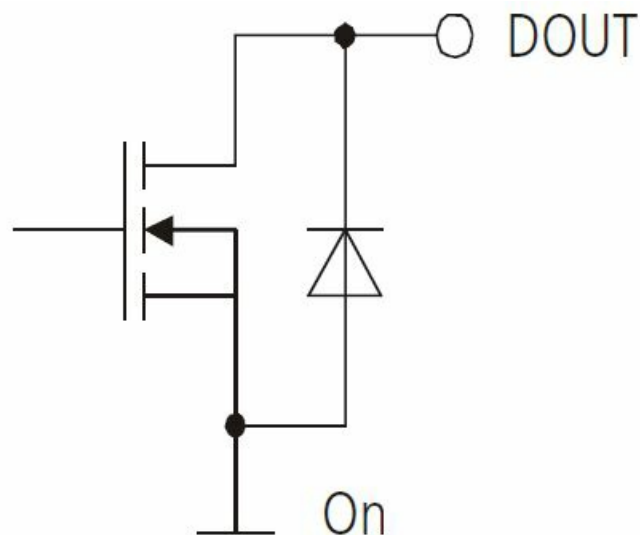

Fig. 7 Open drain output
The DLS-A(H) contains two digital outputs for level monitoring (DO 1 and DO 2) and one digital output for error signalization (DO E). These outputs are open drain outputs as shown in figure 7 and can drive up to 200mA. In the ON state, the FET transistor is electroconductive.